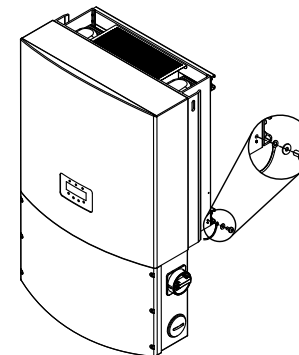

Figure 3.14 Connect the external grounding conductor
An OPTIONAL external ground connection (PE) is provided on the right side of the inverter. To use the OPTIONAL external ground connection (see Figure 3.14):